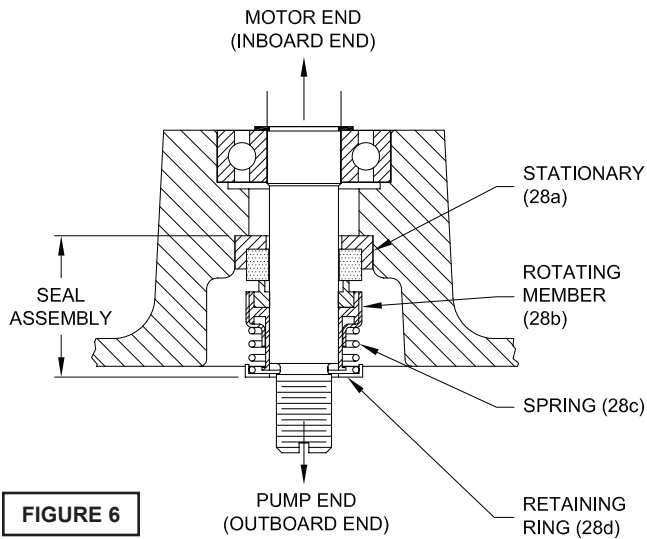

FIGURE 6
Outer Seal - To expose shaft seal (28) for examination, disassemble volute and impeller as outlined in paragraph F-2.1. If further repair is required, remove retaining ring (28d), spring (28c) and rotating member (28b) from shaft (see Figures 6 & 7). Examine all seal parts and especially contact faces. Inspect seal for signs of wear such as uneven wear pattern on stationary members, chips and scratches on either seal face. **DO NOT** interchange seal components, replace the entire shaft seal (28). If replacing seal, remove stationary (28a) by prying out with flat screwdriver.